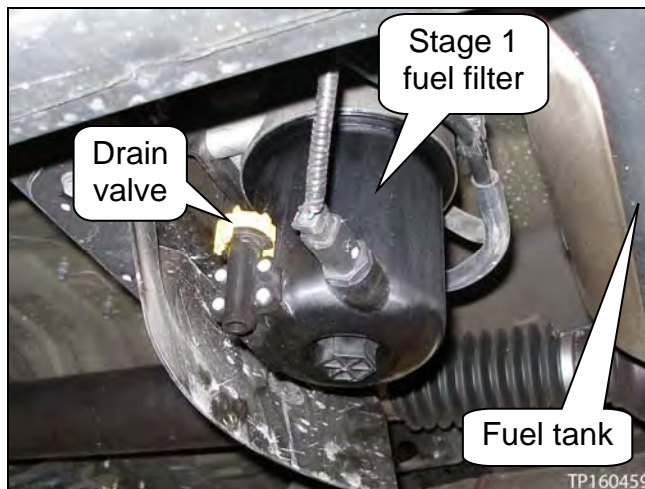

Figure 21
- Open the drain valve and allow fuel to drain in a suitable container until the fuel slows down to a trickle (see Figure 21).